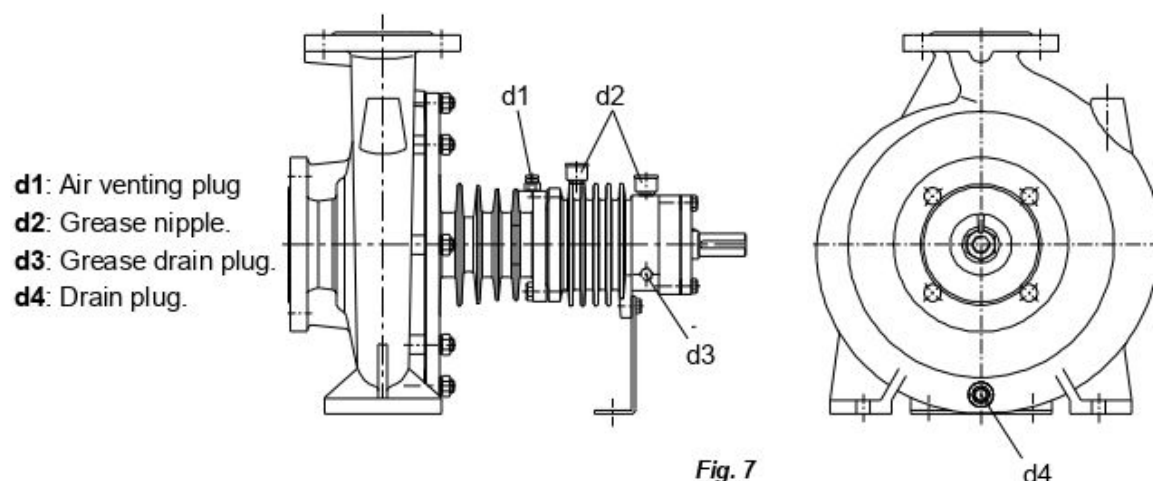

Fig. 7
- Every pump is fitted with connection on the pump casing to drain the pump (**Fig. 7**). If required the pump drain can be piped to a suitable reservoir. The pump draining piping must be fitted with an isolating valve and both must be suitable for the maximum operating pressure of the pump.